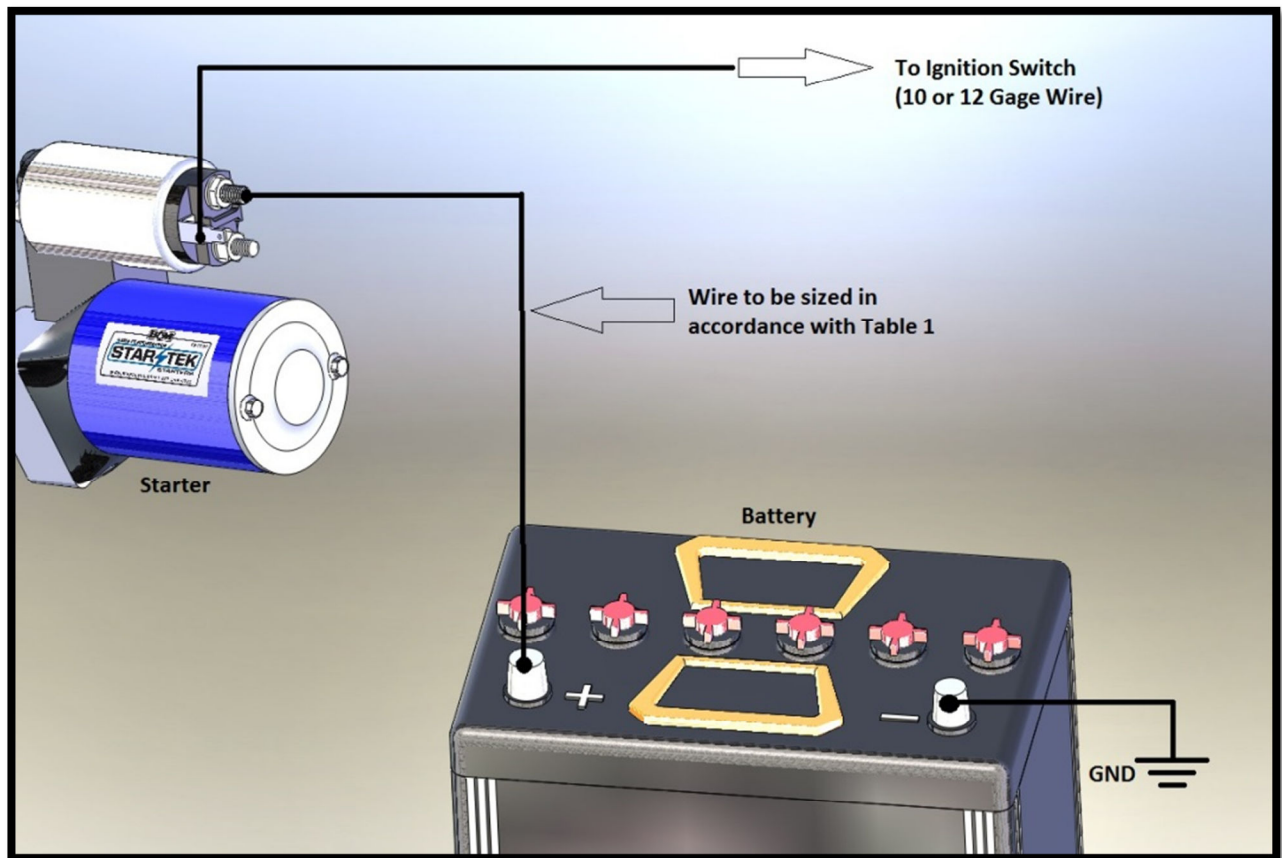
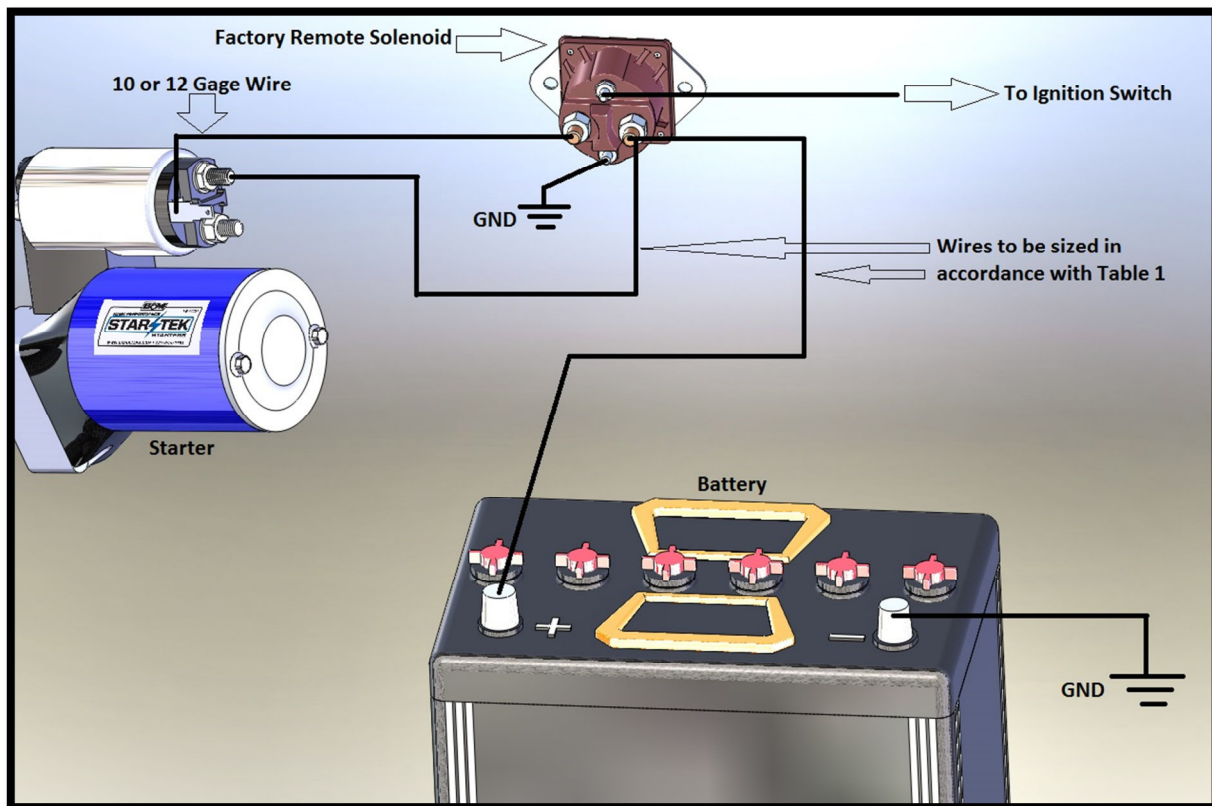

Figure 4: Starter Wiring Without Remote Solenoid
Figure 5: Starter Wiring With Remote Solenoid
STEP 5. Connect the solenoid switch wire. With the amperage being considerable (~30A) to pull the bendix, B&M recommends 12 Ga. wire as a minimum. Figure 4 shows wiring without a remote solenoid, Figure 5 shows wiring with a remote solenoid. While your B&M starter does not require a remote solenoid, it is generally easier to keep as much of the original wiring as possible. **Note:** If your original starter had a second terminal, or “R” terminal, this can generally be omitted. Please see trouble shooting information at the end of this procedure for further information.
STEP 6. Connect the main cable to the starter. Please see Figures 4 and 5 for reference. Because of the high amperage required to turn the starter motor, it is important to size the wire in accordance to its length. Keep in mind to size all ground wires accordingly also, these are carrying equal current. Please see Table 1 for cable length versus gage recommendations.